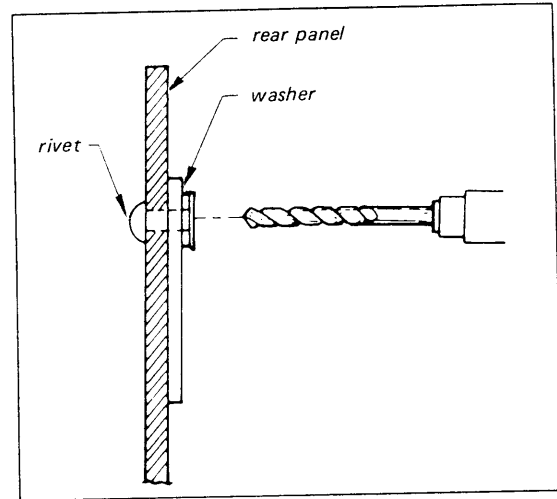

Fig. 2-20. Rivet removal
2. Bore out the rivets using a drill bit slightly larger in diameter than the rivet. See Fig. 2-20.